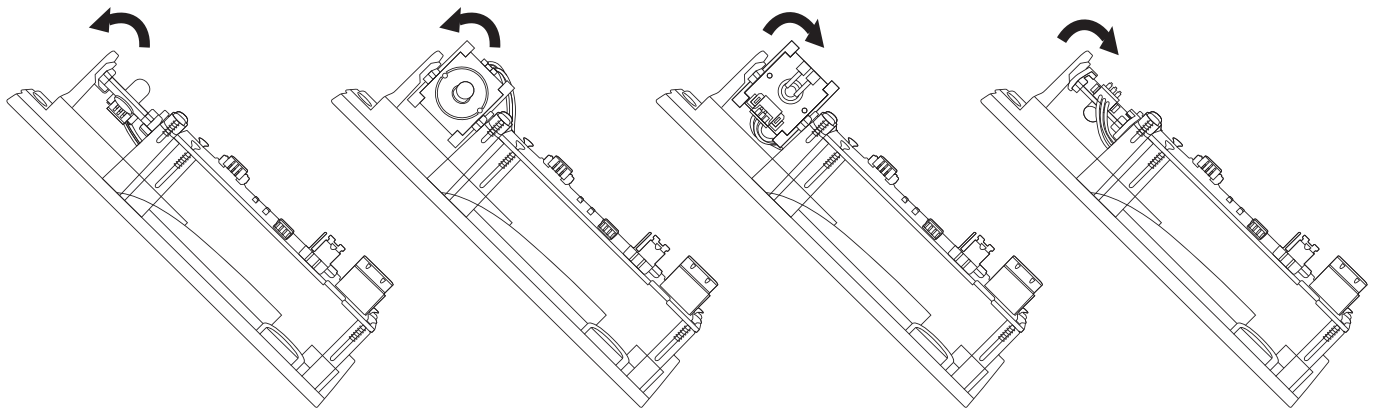

Fig 5
- 2 Infrared receiver, orientable 220 degree. Refer to Fig 5.